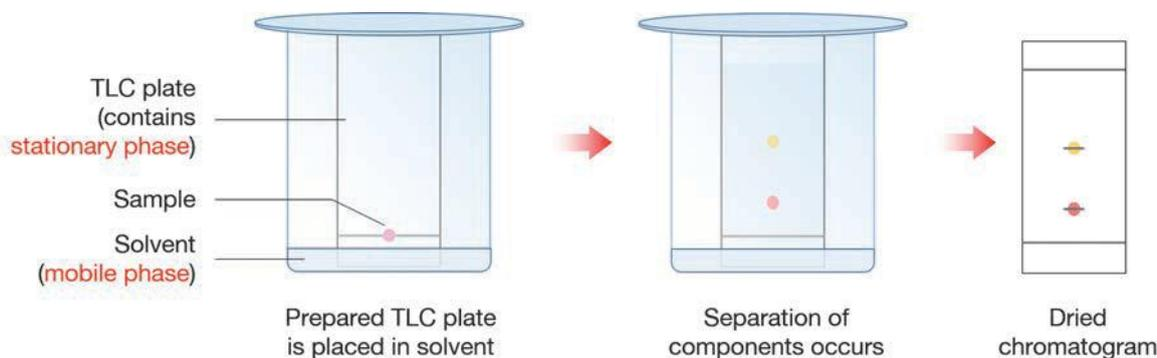

Figure 1.4.2: Chromatographic separation using thin layer chromatography
**Thin-layer chromatography (TLC)** is a technique used to separate components of a mixture on the thin surface of a stationary phase (Figure 1.4.2). A thin layer of adsorbent material (examples include silica or alumina) is bonded to the surface of an inert sheet of material (glass, aluminium or polymer) as the stationary phase.